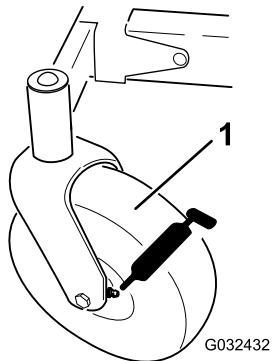

Figure 38
3. Clean the grease fittings (Figure 38) with a rag.
4. Connect a grease gun to each fitting (Figure 38).